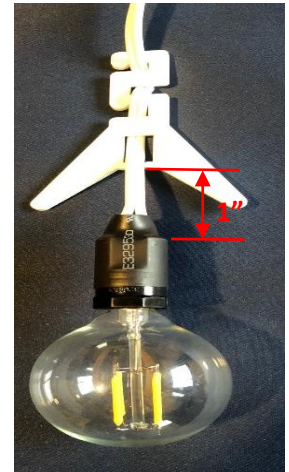

Figure 6: Y-Hanger
- Weave the electrical cord as shown through the slots of the Y-shaped hanger. Make sure that the bottom of the hanger is at least 1" above the junction of the cord and bulb assembly, Figure 6.